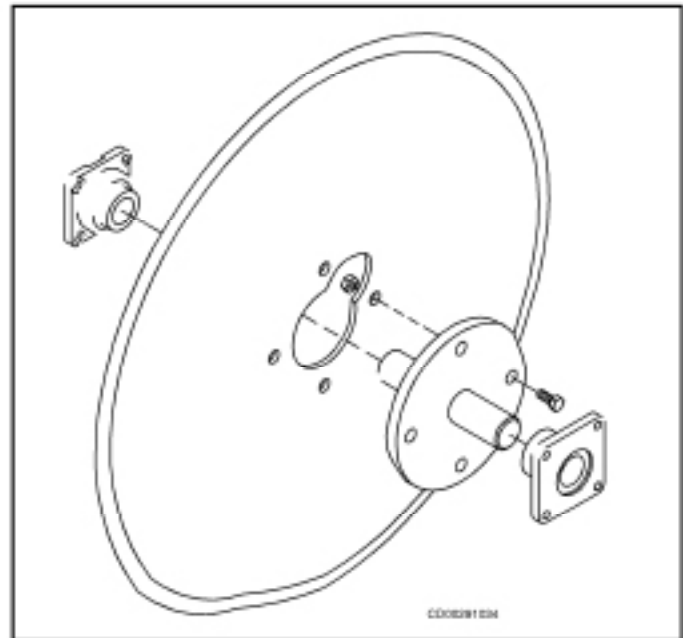

Figure 26 Mounting Couler Disc
1. Fasten hub assembly to disc, using 3/8 x 1-1/4" hex bolts, lock washers, and hex nuts as shown in Figure 26.